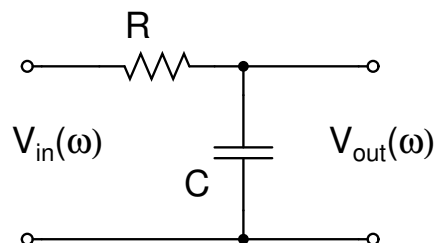

Figure 1: A RC circuit.
In class we discussed the behavior of charging capacitor in RC circuit shown in figure 1 (note that V_{out} is the same as V_C). Derive current (I) and voltage drop across capacitor (V_C) as functions of time for the case of discharging capacitor: $V_{\text{in}}(t < 0) = V_o$ and $V_{\text{in}}(t > 0) = 0$. It is safe to assume that capacitor was fully charged and no current was flowing at $t < 0$.